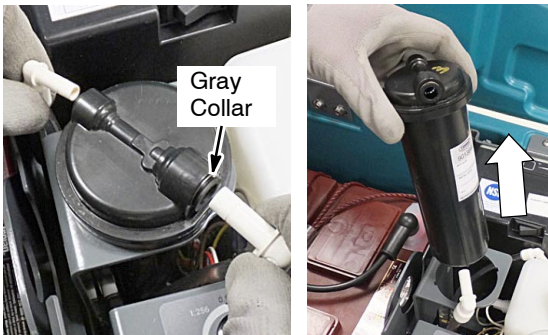

FIG. 97
3. Disconnect the two hose connectors from the top of the cartridge by pressing the gray collars inward and pulling the connectors outward (Figure 97). Lift cartridge to remove.